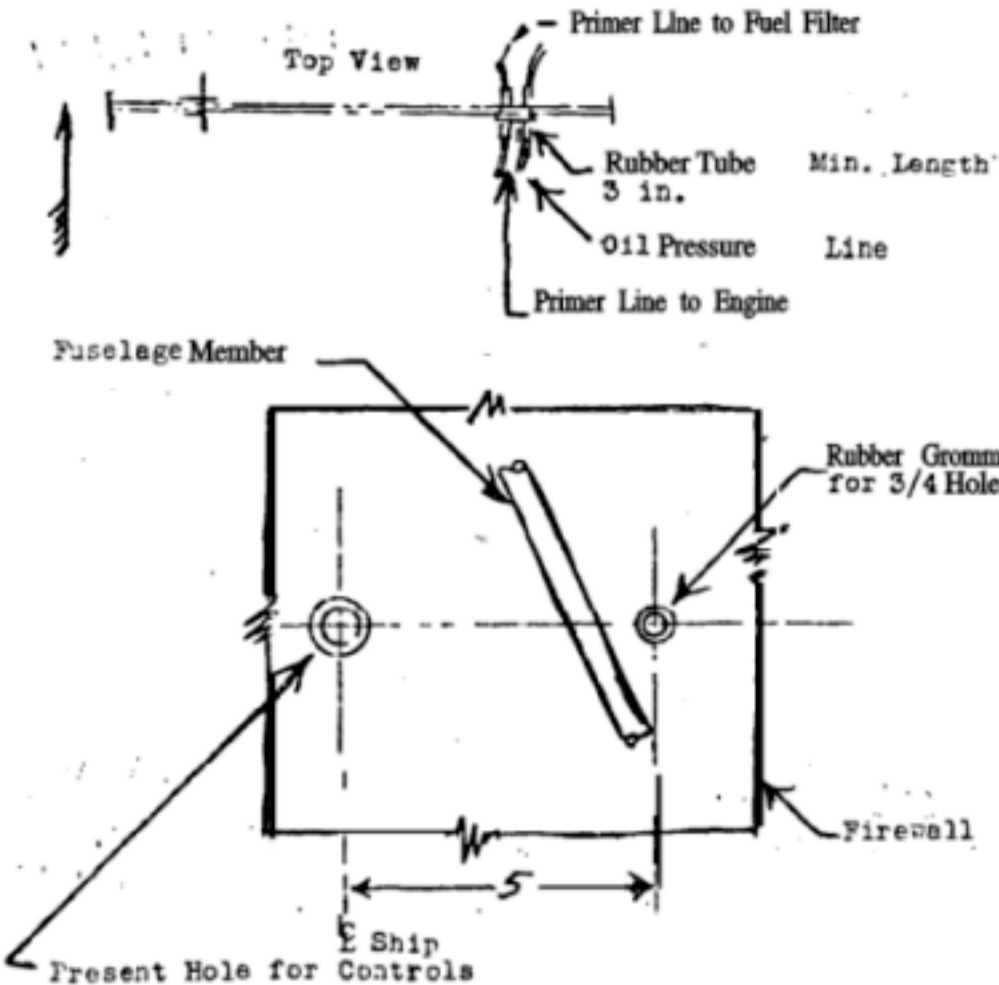

Fig. 2
3. On the subject airplanes the primer line from the fuel filter to the primer and the line from the primer to the engine, as well as the oil pressure line, pass through a firewall opening through which ignition wires; temperature casing, and flexible engine controls pass. In view Of the possibility of these units wearing through the primer and oil pressure lines, it is recommended that an additional hole be placed in the firewall approx. 5" to the right of the present hole, which is centrally located, and at the same height vertically. The hole should be 3/4" in diameter. A standard rubber or neoprene grommet is to be placed in this hole to protect the primer and oil pressure lines, which are to pass through this hole from wearing on the firewall The oil pressure line and the large primer line are to be encased in a rubber tube for a distance about three inches of its length at the point where it passes through the firewall. This tubing is to be cemented in place. (Refer Fig. 2 for further clarification.)